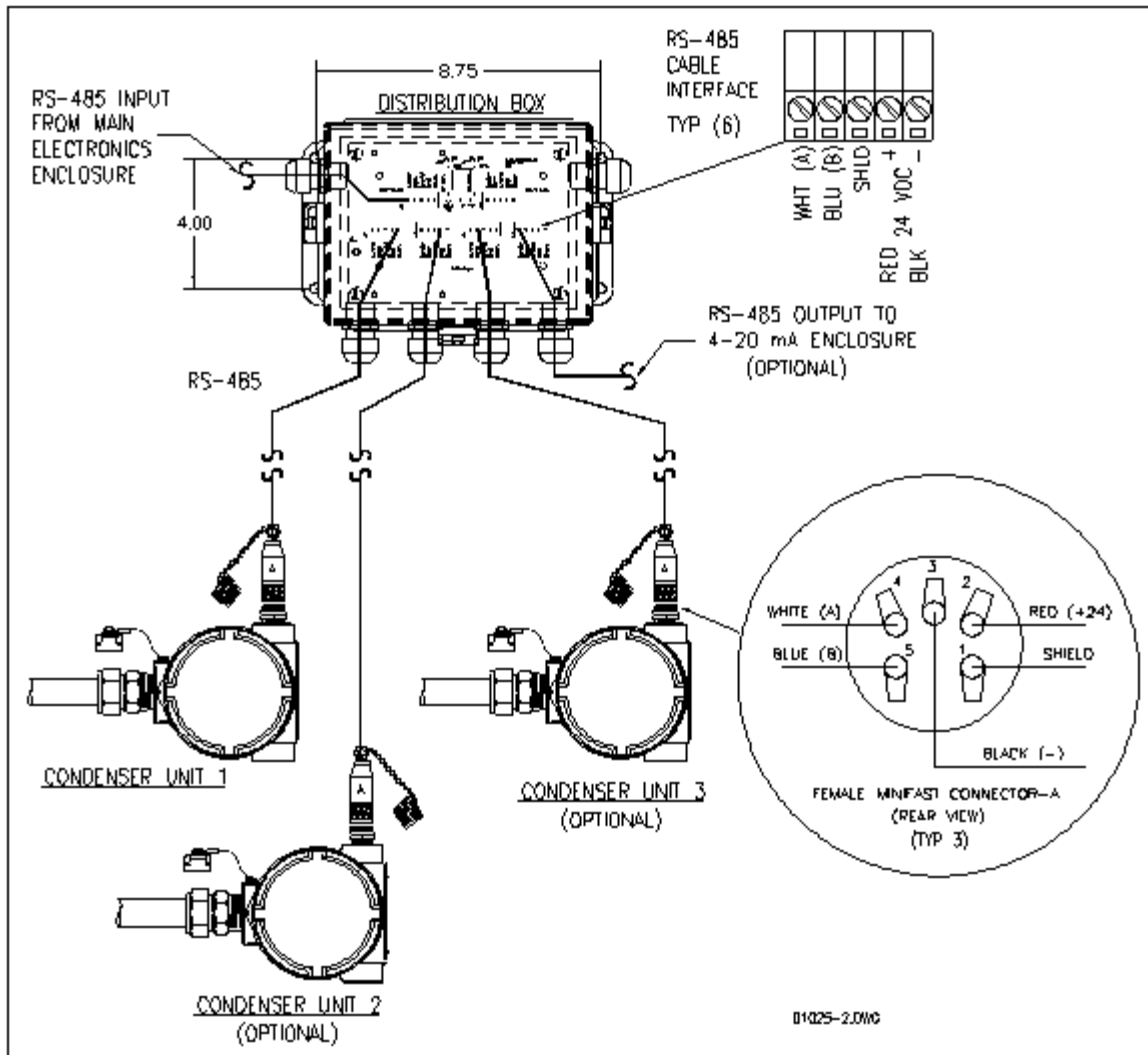

Figure 6 Distribution Box
B. Distribution Box (see Figure 6)
4. Connect the probes to the distribution enclosure using the manufacturer supplied four conductor shielded cable. Probe cable connections are shown in Figure 6.
4. Insert the wires, in accordance with color-coding shown (see Figure 6, insert).